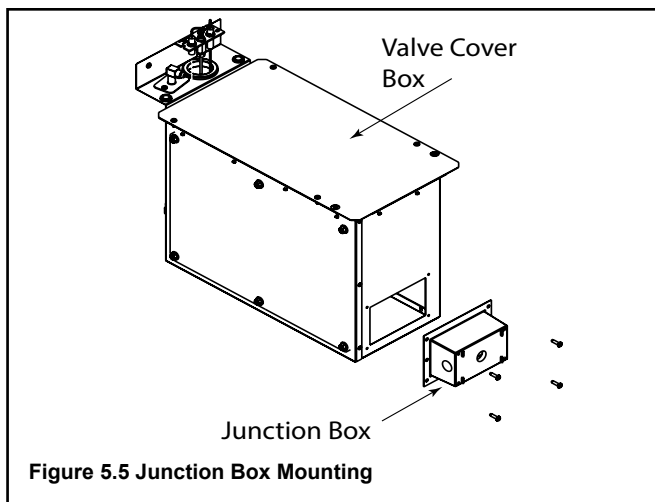

Figure 5.5 Junction Box Mounting
- Reinstall Junction Box & Mounting Bracket removed in Step 2. See Figure 5.5.